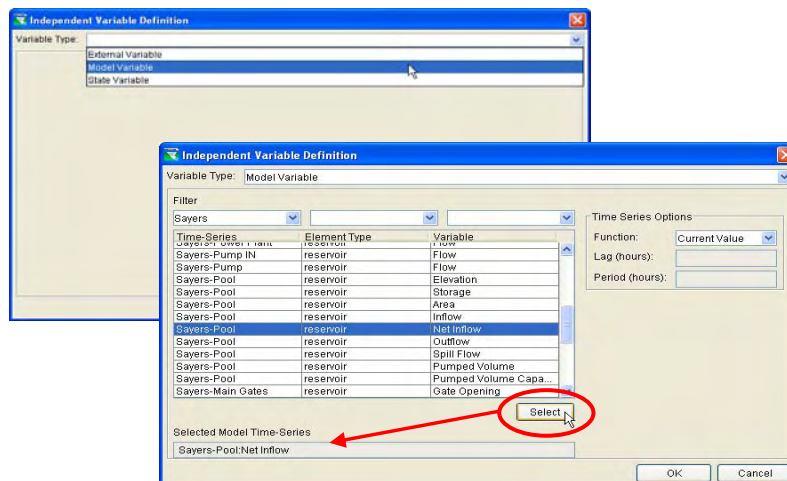

Figure 11.65 Conditional Test Editor – Select Time Series for Value 1
- When selecting a value type of **Time Series**, the **Independent Variable Definition** editor will open where you can select **External Variable**, **Model Variable**, or **State Variable**. Then, depending on your selection, a subsequent editor will open. In Figure 11.65, the **Model Variable** was selected and the **Independent Variable Selection** editor opened where the reservoir inflow was **Selected** for the **Current** value.